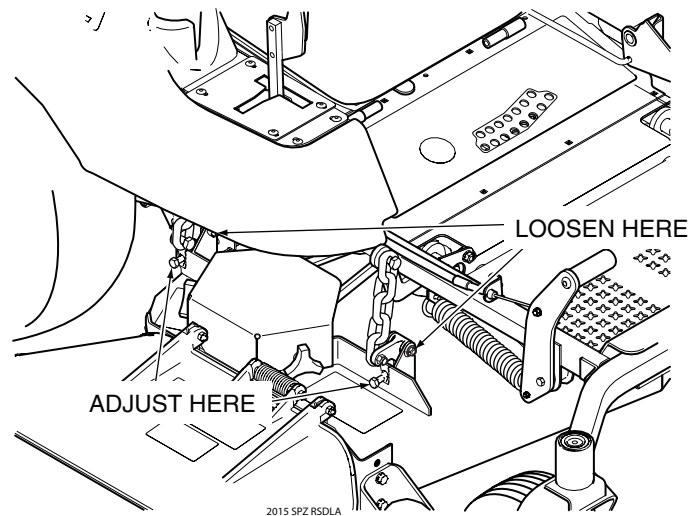

Figure 6-7. Cutter Deck Height Adjustment
3. Loosen the elastic stop nuts securing the deck level links. See Figure 6-7.